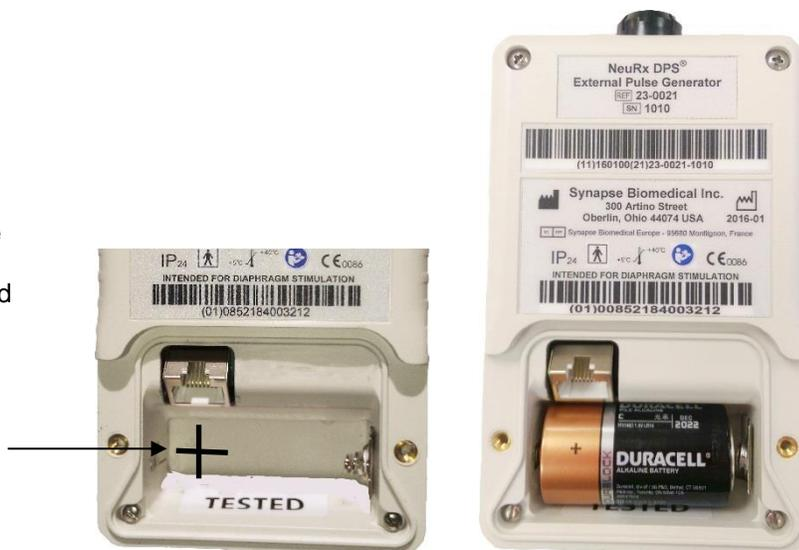

Figure 4.
- **IMPORTANT:** Put the battery in the correct position. (Figure 4)